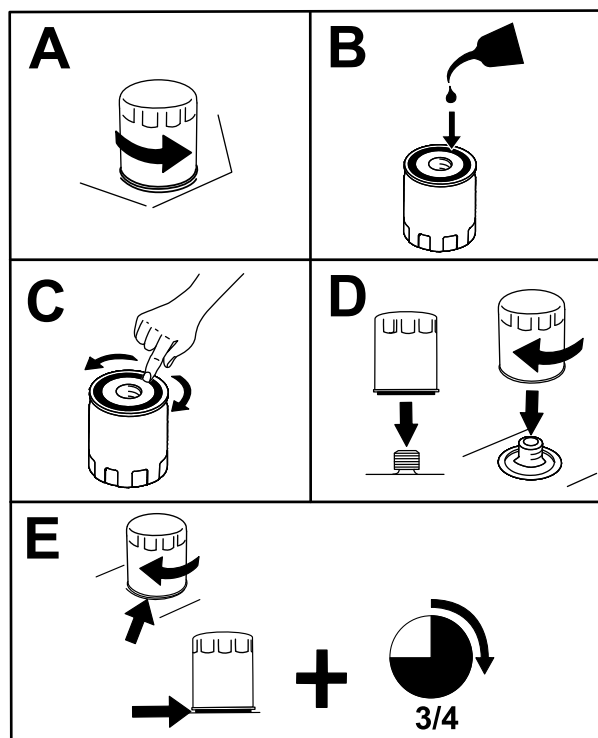

Figure 35
2. Change the engine-oil filter (Figure 35).